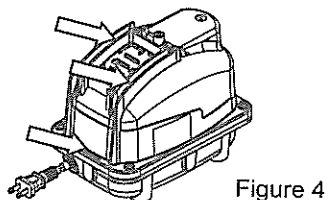

Figure 4
⑤ Check and make sure the air inlet is not clogged.
⑥ Remove the dust at the Upper housing rear. (Figure 4)